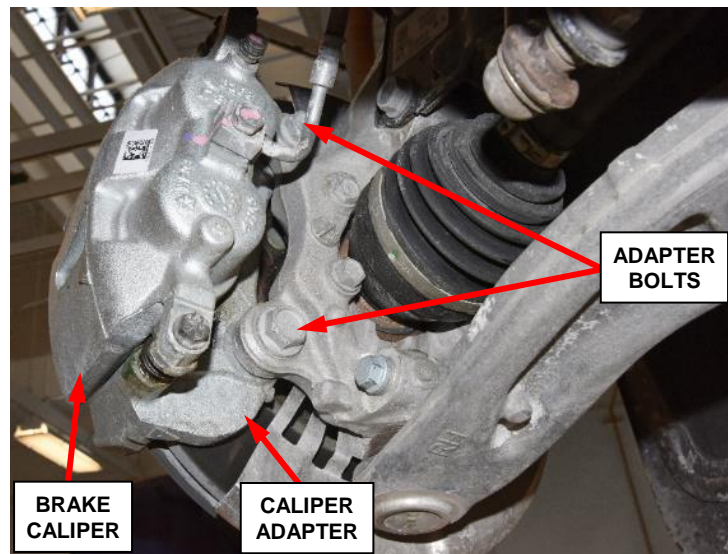

Figure 6 – Brake Caliper Adapter Bolts
4. Remove and **SAVE** the two bolts securing the brake caliper adapter bracket to steering knuckle (Figure 6).
45. Install the brake caliper adapter bracket with brake caliper to the steering knuckle. Install the two mounting bolts and tighten the bolts to 202 N·m (149 ft. lbs.) (Figure 6).